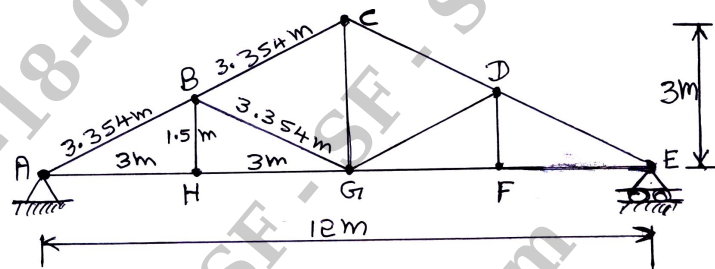

Fig.Q4
4. Design a bolted steel Howe truss having an effective span of 12.00m. The geometry of the truss is as shown in Fig.Q4. The forces induced in the members due to dead load, live load and wind load is tabulated in Table.Q4. Determine the design forces in the members due to various combination of loads as per IS – 800 provisions and hence design principal rafter, principal tie and main sling member with all the necessary safety checks including the reversal of stresses. Also design support joint ‘A’ by considering the size of supporting reinforced cement concrete column as 300 × 300mm, the design bearing pressure on the concrete is limited to 2N/mm² and the design bond stress between anchor bolt and concrete is limited to 1.2N/mm². Use M16 ordinary black bolts of grade 4.6 for designing member and connection with gusset plate and M25 bolt as anchor bolt at supports. List the design details.